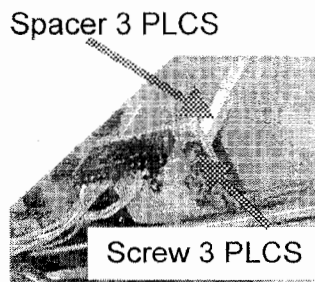

Figure 10
11. Remove the Limit Switch Board by removing three screws and spacers. (see Figure 10)